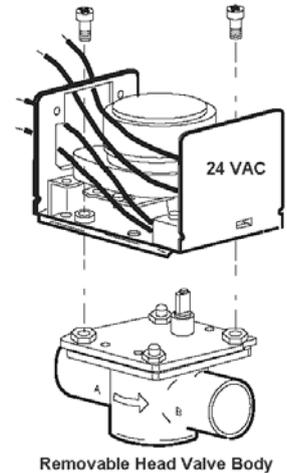

Fig. 2. Remove and Install Powerhead
3. Remove the 2 screws securing the powerhead to the valve body. (Fig. 2.)
4. Secure the powerhead to the valve body with the 2 screws provided.(Fig 2.)